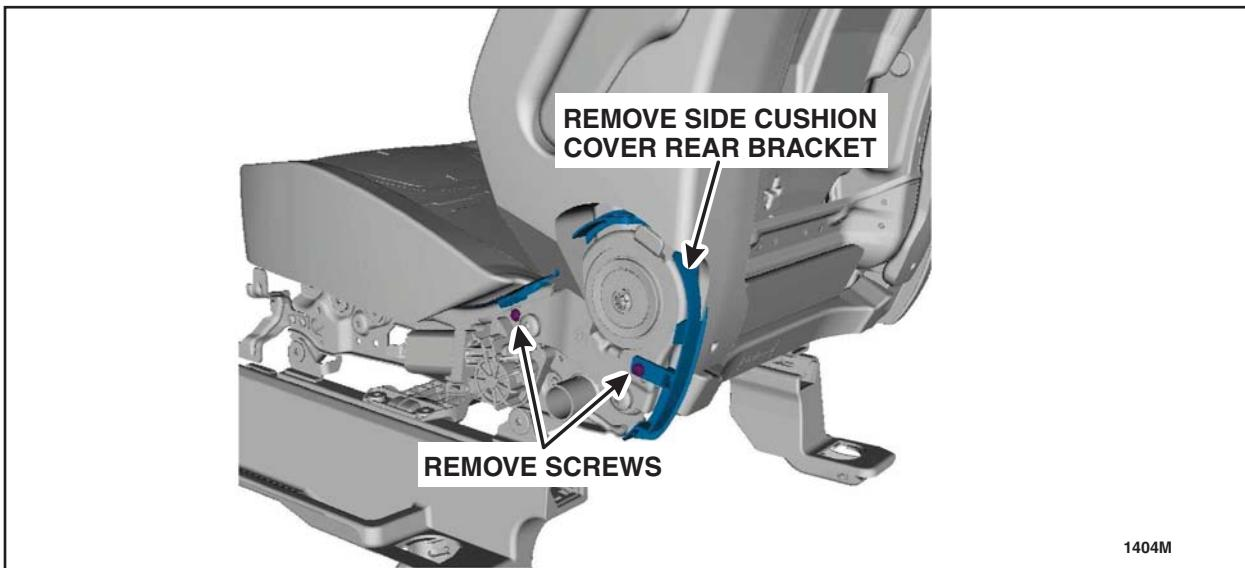

FIGURE 17
20. Remove the two screws and the side cushion cover rear bracket. See Figure 17.
2. Install the side cushion cover rear bracket and tighten the two screws. See Figure 17.